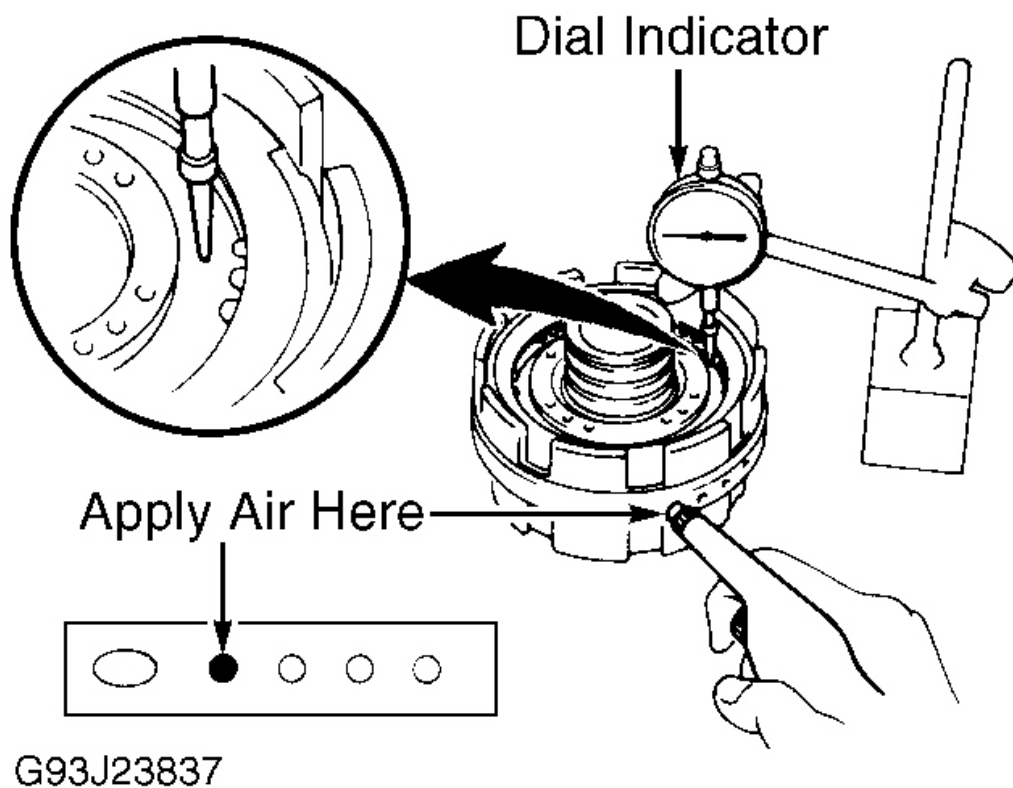
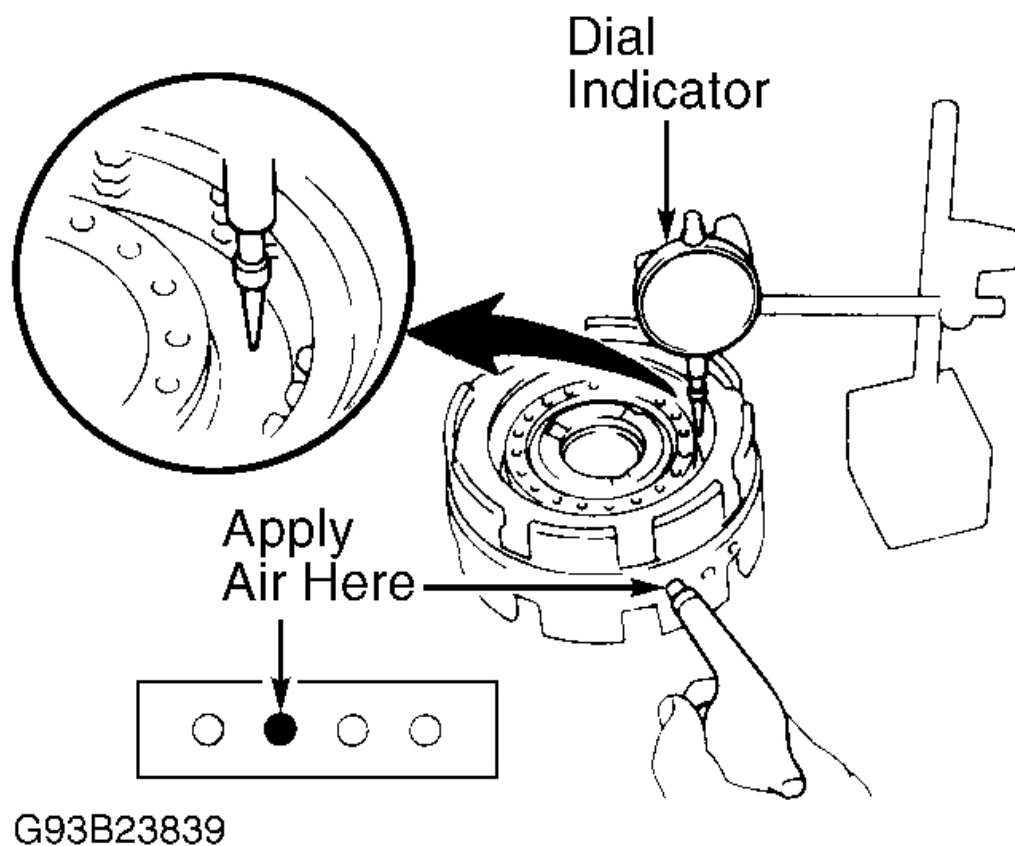
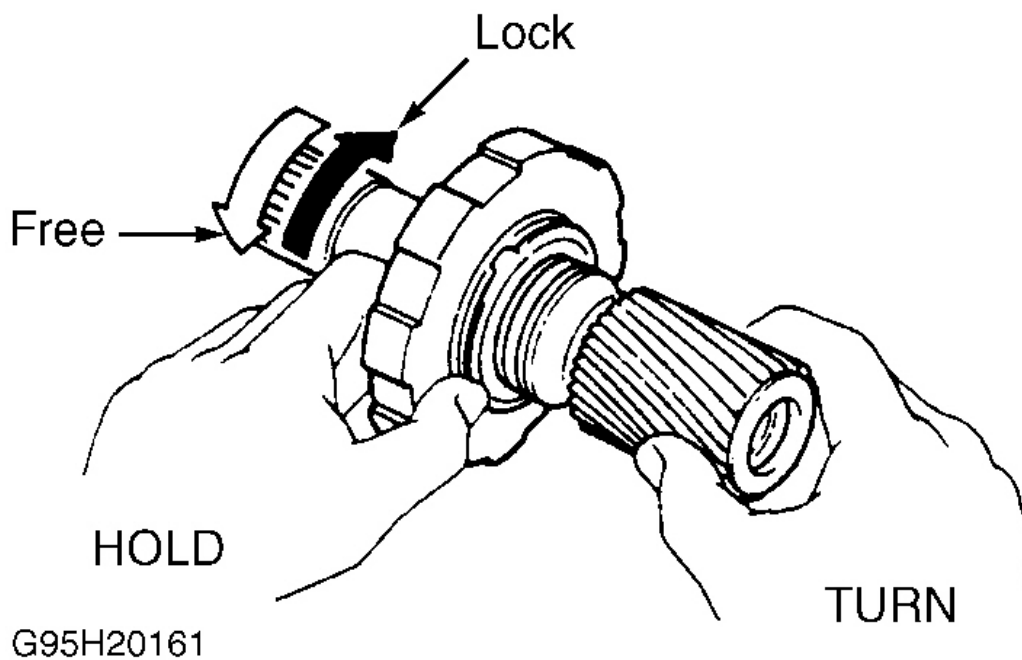
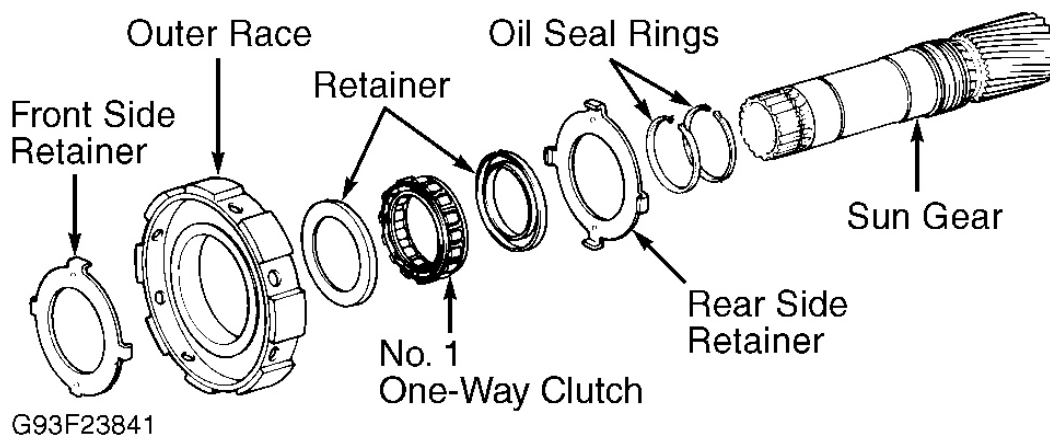

Fig. 33: Measuring No. 1 Brake Piston Stroke
Fig. 34: Measuring No. 2 Brake Piston Stroke
Fig. 35: Checking No. 1 One-Way Clutch Operation
Fig. 36: Exploded View Of Planetary Sun Gear Shaft & No. 1 One-Way Clutch
1. Remove snap ring from end of sun gear shaft. See **Fig. 32**. Remove No. 2 brake hub assembly and No. 1 one-way clutch from center support. Repeat procedure used in direct clutch disassembly to check No. 1 brake piston stroke. See **Fig. 33**. On Grand Vitara/Vitara, piston stroke should be .039-.047" (1.0-1.2 mm) and .025-.068" (.64-1.73 mm) for all other models. If piston stroke is not as specified, inspect discs.
3. Hold No. 1 brake piston and apply air pressure to specified center support oil hole to remove No. 1 brake piston. See **Fig. 33**. Remove "O" rings and oil sealing rings. Turn center support over.
4. Check No. 2 brake piston stroke. Repeat test procedure used previously for checking piston stroke on No. 1 brake piston. See **Fig. 34**. Piston stroke should be .040-.089" (1.02-2.26 mm). If piston stroke is not as specified, inspect discs. Remove No. 2 brake clutch snap ring, flange, discs and plates. Note location and number of components. See **Fig. 32**.
5. Using spring compressor, compress piston return spring. Remove snap ring. Remove piston return spring. Hold No. 2 brake piston and apply air pressure to specified center support oil hole to remove No. 2 brake piston. See **Fig. 34**. Remove "O" rings.
6. Hold No. 1 one-way clutch and rotate sun gear shaft. Sun gear shaft should rotate freely in counterclockwise direction and lock in clockwise direction. See **Fig. 35**. If component does not operate as described, one-way clutch requires replacement. Loosen staked part of rear side retainer. Remove No. 1 one-way clutch and 2 retainers from outer race. See **Fig. 36**. Using a pin punch and hammer, remove front side retainer. Remove oil sealing rings from sun gear shaft.
3. Recheck piston stroke of No. 1 brake and No. 2 brake. See **Fig. 33** and **Fig. 34** . If piston stroke is not as specified, check for incorrect reassembly of components. Reassemble sun gear shaft and No. 1 one-way clutch. See **Fig. 36** . While turning one-way clutch, install sun gear shaft assembly into center support. Install snap ring on end of sun gear shaft.